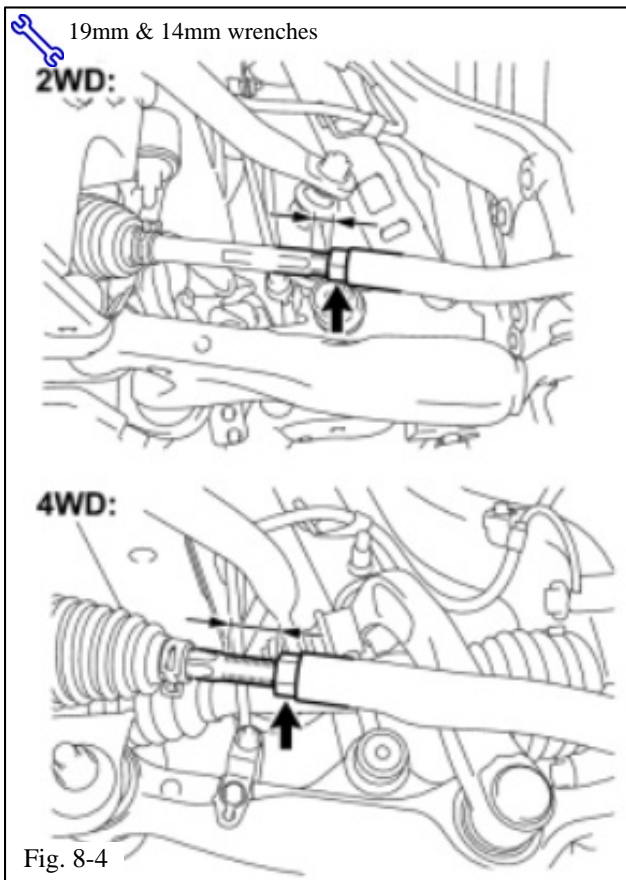

Fig. 8-4
- (1) Confirm the steering wheel is locked in the straight ahead position.
- (2) Remove the outer steering rack boot clips from the boots.
- (3) Loosen the tie rod lock nuts (Fig. 8-4).
- (4) Turn the right and left steering rack ends by an equal amount to adjust the toe-in.
- (5) Make sure that the thread length of the right and left steering rack ends are the same (small arrows, Fig. 8-4).
- (6) Tighten the tie rod lock nuts (Fig. 8-4).
- (7) Replace the steering rack boots on the seats and install the steering rack boot clips.